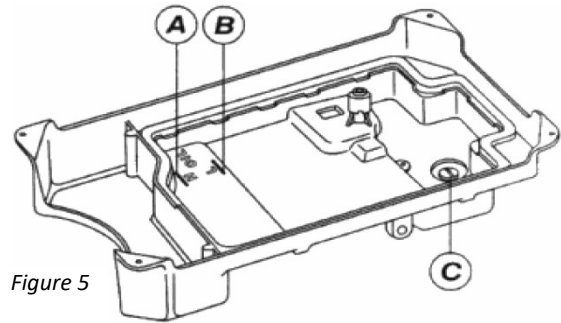

Figure 5
Oil amount must be oiled according to the mark of drip pan. Mark (A) is the highest situation. Mark (B) is the lowest situation. Note that oil amount couldn't be lower than mark (B). Otherwise all parts of machine will appear heat and dead point for not gaining oil. See Fig. 5.